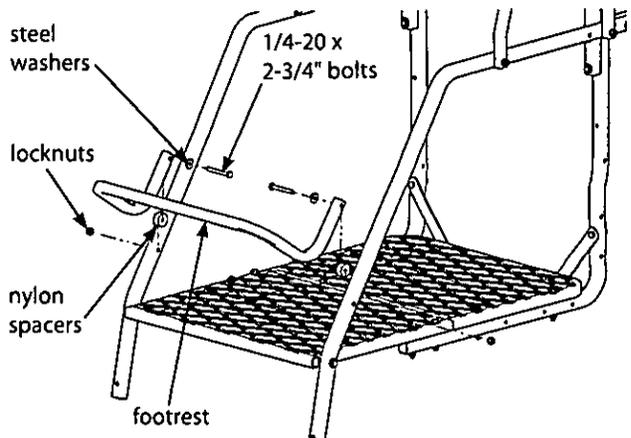

Figure 5
7. Attach footrest (410061) to ladder side rails using (2) provided 1/4-20 x 2-3/4" bolts, locknuts, steel washers and nylon spacers. SEE FIGURE 5.